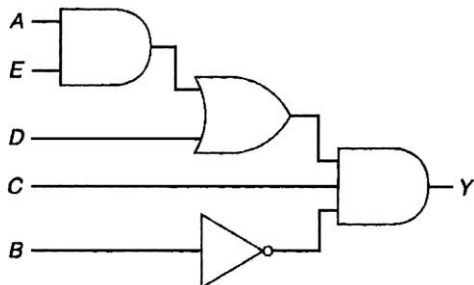

Figure 4-11 Logic circuit for question 20.
20. The Boolean expression for the logic circuit drawn in Figure 4-11 is 20. _____